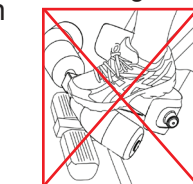

Figure 6A
- Step over the Main Shaft, placing your feet on the floor on either side. To balance yourself, rest only your lower body against the Table Bed as you slide one ankle at a time between the Ankle Clamps onto the Foot Platform. Be sure to slide your ankle in from the side (Figure 5); **DO NOT** insert the foot through the ankle clamps as you would slide your foot into a shoe. Your feet should always be either on the floor or on the Foot Platform; never use any other part of the inversion table as a step (Figures 6A and 6B).